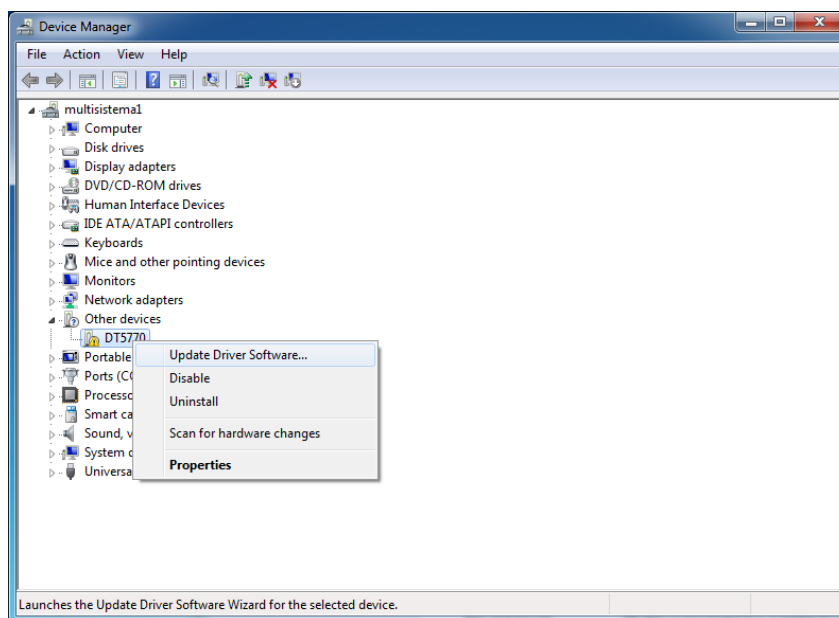

Fig. 10.1: DT5770 unknown device in Windows Device Manager
- 3.Right click on the DT5770 item in the Windows Device Manager’s “Other devices” list and select the “Update Driver Software...” option (see **Fig. 10.1**).